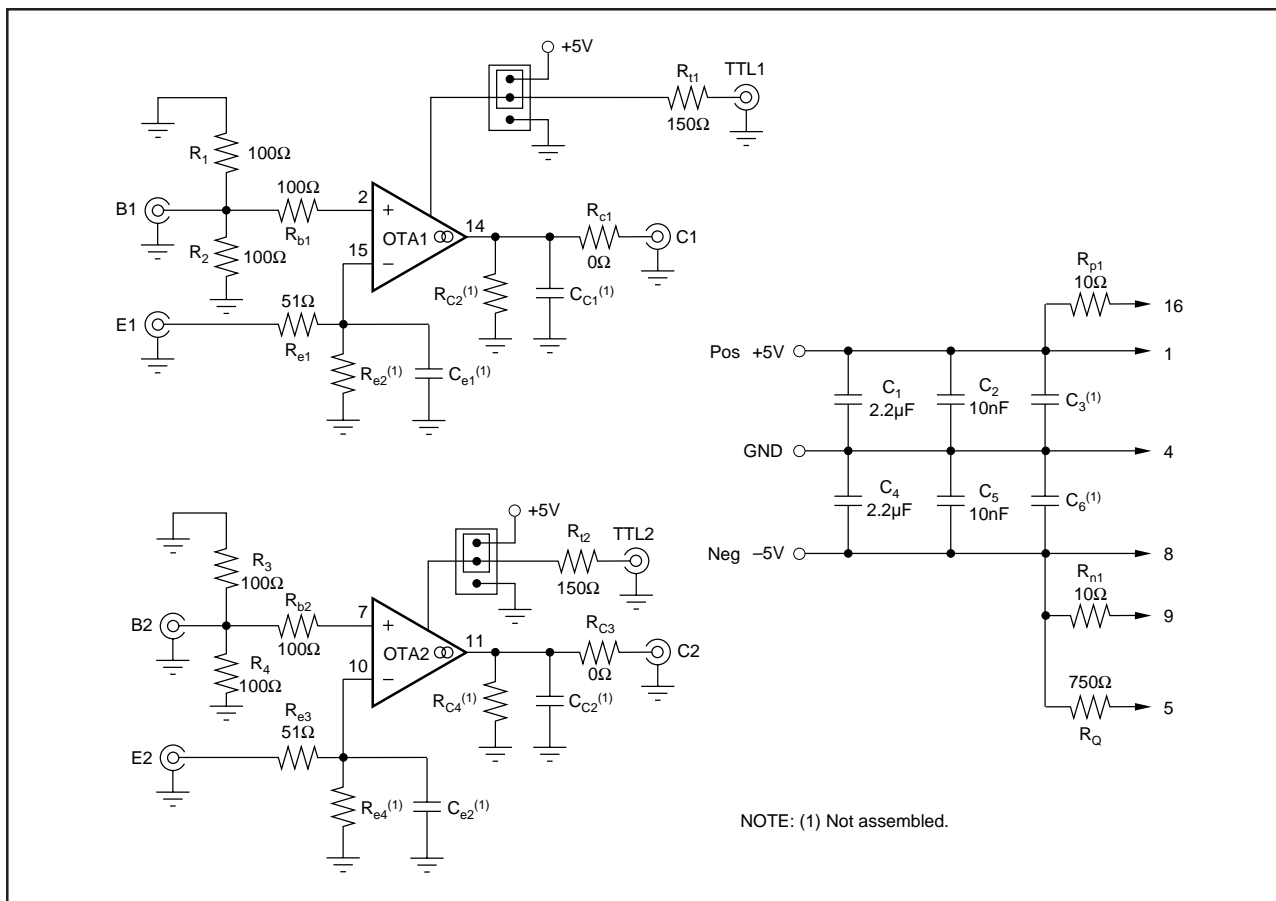

FIGURE 8. Evaluation Circuit Schematic.
- Some applications may require a limitation for the maximum output current to flow. This can be achieved by adding a resistor (about  $10\Omega$ ) between supply lines 1 and 16, and, 8 and 9 (see also Figure 8). The tradeoff of this technique is a reduced output voltage swing. This is due to the voltage drop across the resistors caused by both the collector and the emitter currents.